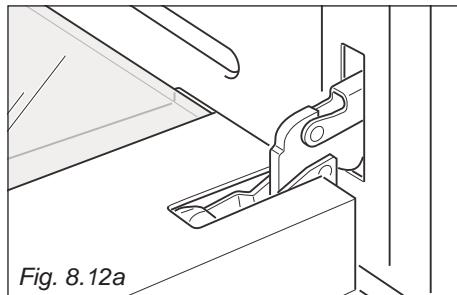

Fig. 8.12a
- Open the door to the full extent (fig. 8.12a).